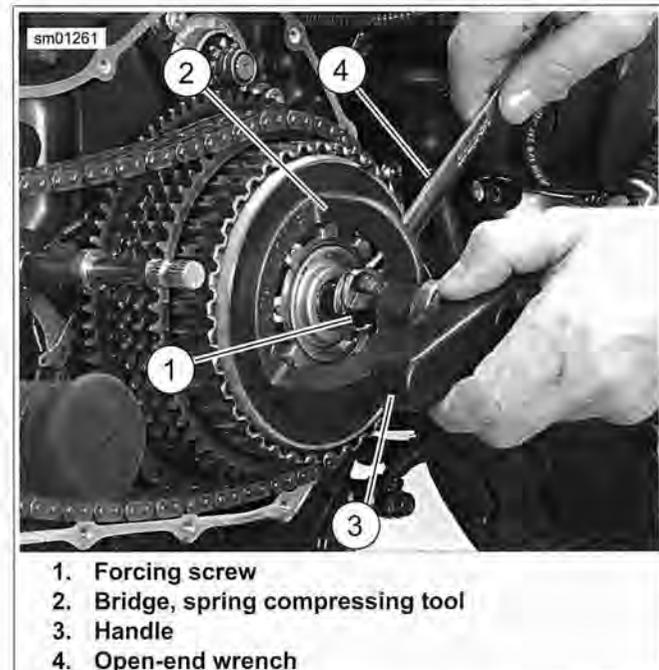

Figure 5-11. Compressing Clutch Diaphragm Spring
2. See Figure 5-11. Thread the CLUTCH SPRING FORCING SCREW (Part No. HD-38515-91) onto the clutch adjusting screw. Place the bridge of the SPRING COMPRESSING TOOL (Part No. HD-38515-A) against diaphragm spring. Thread the tool handle onto end of forcing screw.
12. See Figure 5-11. Place an open-end wrench (4) on the clutch spring forcing screw (1) flats to prevent the forcing screw from turning.